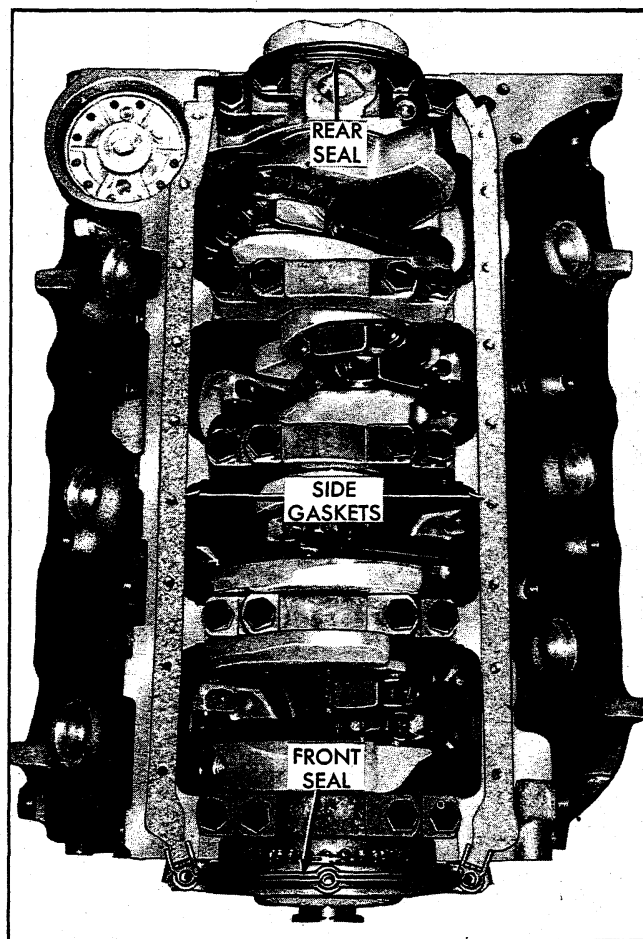

Fig. 9V - Oil Pan Gasket and Seal Location
3. Install rear oil pan seal in groove in rear main bearing cap with ends (fig. 9V) butting side gaskets.